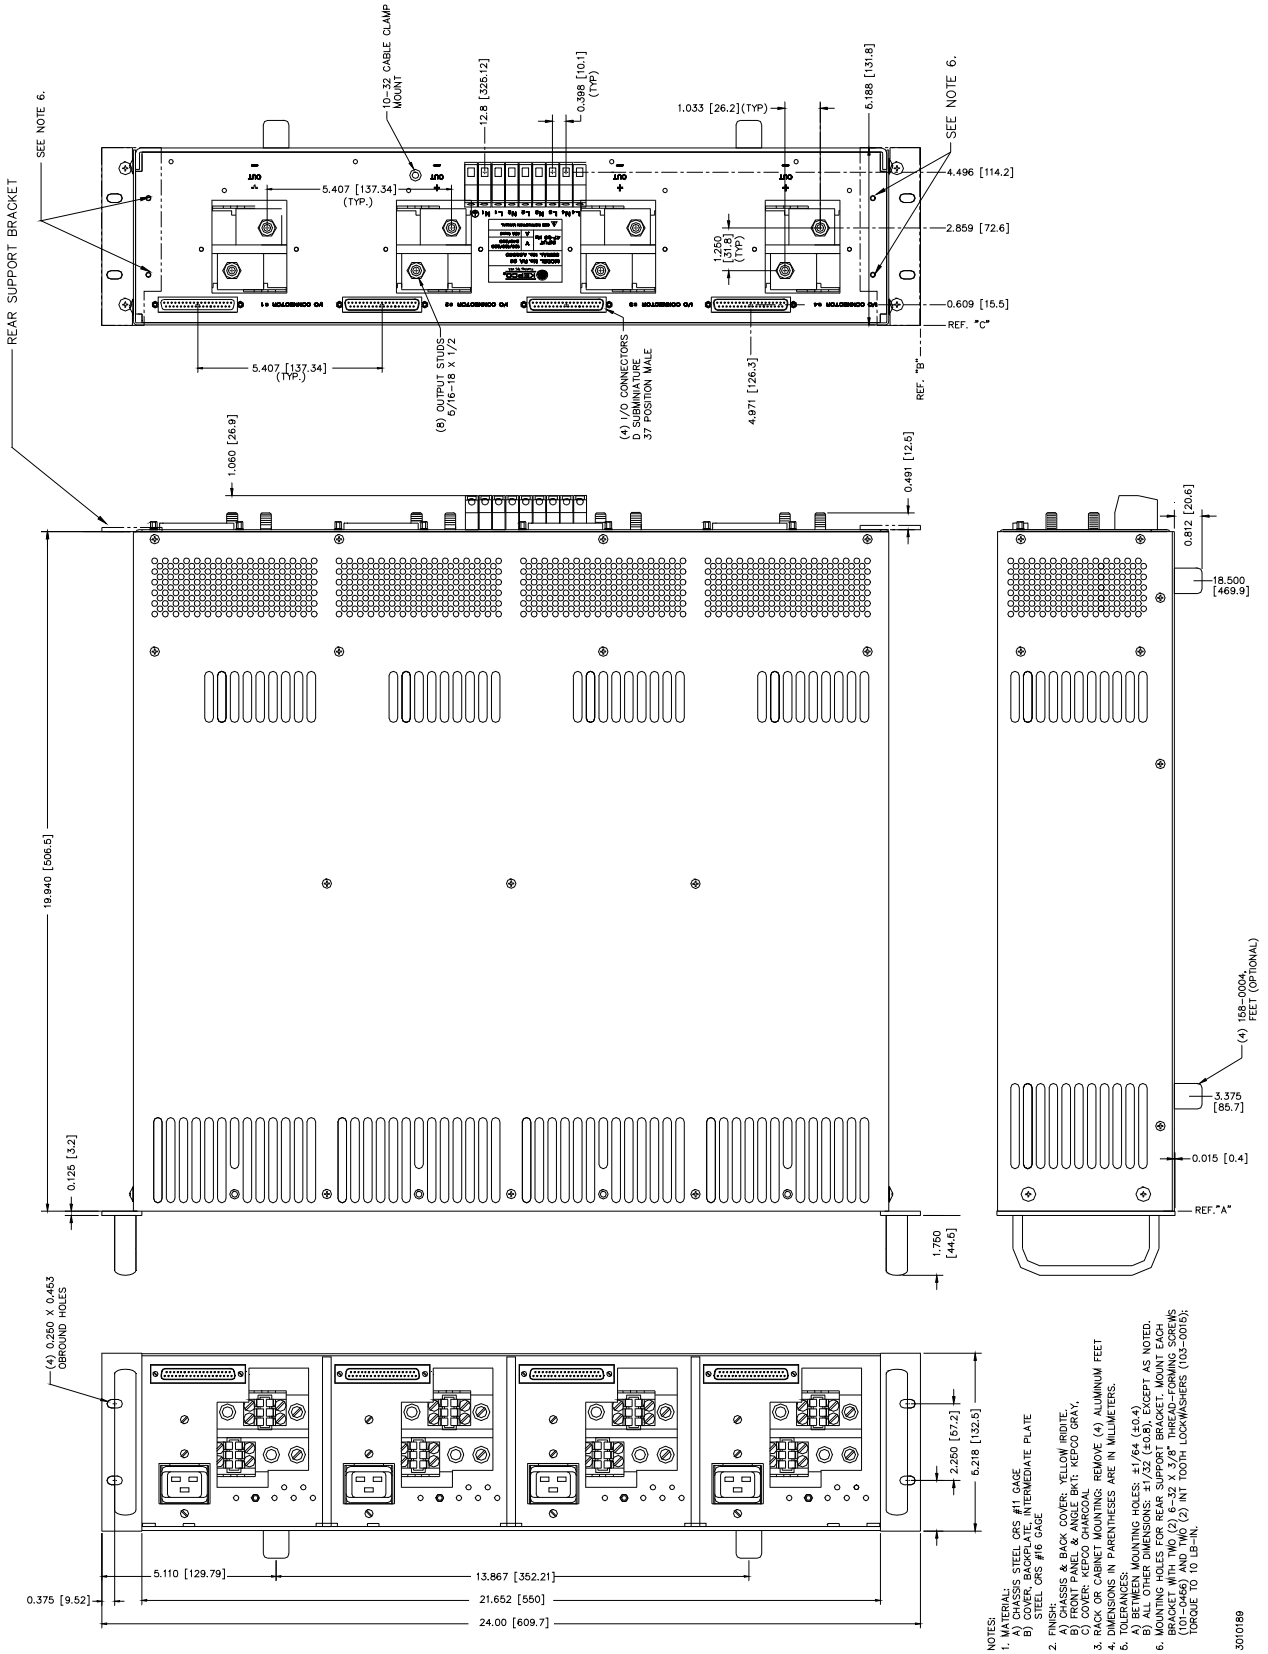

FIGURE 1-2. MECHANICAL OUTLINE DRAWING, RA 59 RACK ADAPTER
External dimensions and all mechanical and electrical specifications are contained in the outline drawing: Figure 1-2.
| SUPPORT BRACKET (REAR) | 128-1909 | Auxiliary support when rack adapter fully populated with 4 power supplies. Two (2) brackets required for each rack adapter. Mount each bracket using two (2) 6-32 X 3/8" thread-forming screws (Kepco p/n 101-0456) and two (2) internal tooth lock washers (Kepco p/n 103-0015), see Figure 1-2. |
2.6 INSTALLATION (Refer to “Mechanical Outline Drawing,” Figure 1-2.)